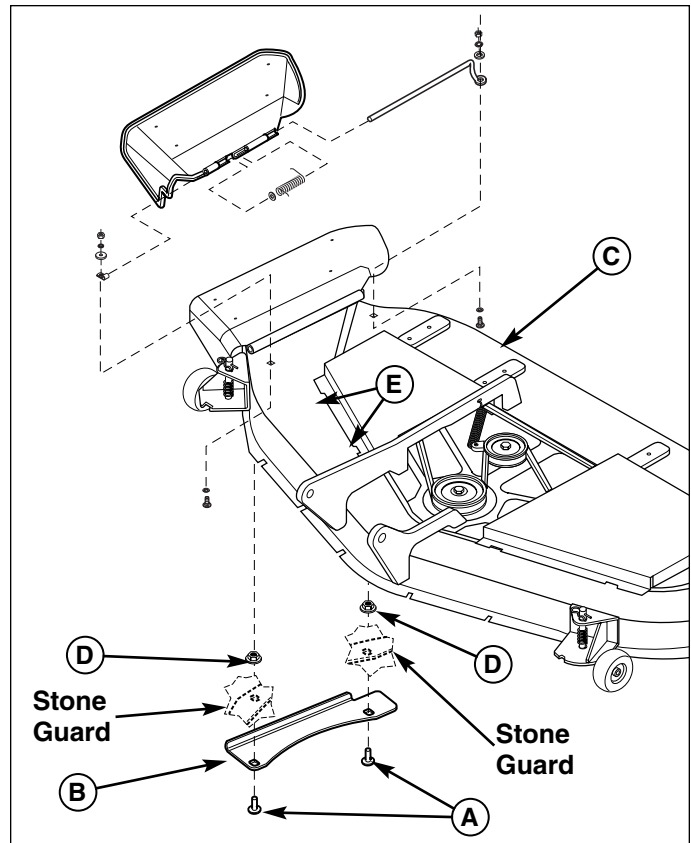

Figure 1. Install Hook Plate
NOTE: When installing this attachment on early models, the rivets securing the clips (E, Figure 1) must be drilled out, and the new belt cover secured with taptite screws supplied.
3. Install the hook plate (B, Figure 1) below the stone guard using two 5/16-18 x 3/4 carriage bolts (A) and flange locknuts (D). Install the bolts from the bottom up.